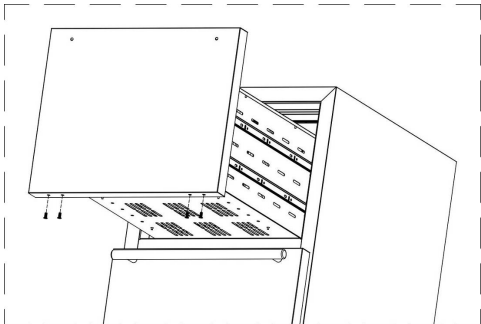

Fig. 1
2. Place the top and bottom bracket along the edge of the panel. (Fig.1)
3. Attach the bracket to the overlay panel by using Phillips self-tapping screws. (Fig.1)
- 2. Remove the four screws from the bottom of the drawer and set them aside for later use. (Fig. 1)